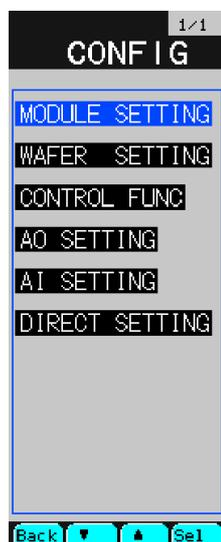
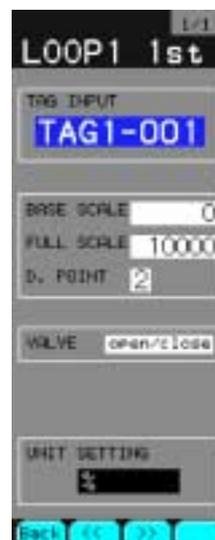

Fig. 4-28
Fig. 4-29
- ① Press the **MENU** key to display the “MENU 3/3”.
- ② Press “▼” 5 times to move the cursor to “CONFIGURATION”.
- ③ Press the “Sel”. “CONFIG” screen will appear (Fig. 4-28).
- ④ Align the cursor with “MODULE SETTING”.
- ⑤ Press the “Sel” key. “TAG INPUT” screen will appear (Fig. 4-29).